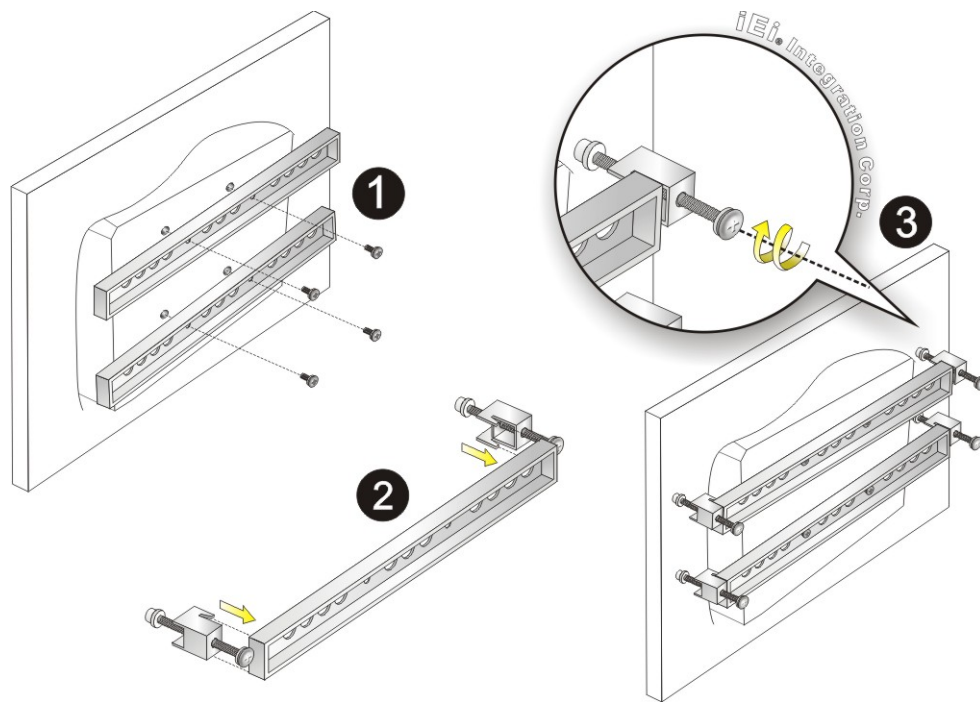

Figure 4-10: Panel Mounting
- Step 5:** Secure the two panel mounting brackets to the rear of the panel PC by inserting the four retention screws into the VESA mounting holes (**Figure 4-10 ①**).
- Step 6:** Insert the panel mounting clamps into the pre-formed holes along the two edges of the panel mounting brackets (**Figure 4-10 ②**). There are a total of 4 panel mounting clamps for AFL2-12A-HM65.
- Step 7:** Tighten the screws that pass through the panel mounting clamps until the plastic caps at the front of all the screws are firmly secured to the panel (**Figure 4-10 ③**).